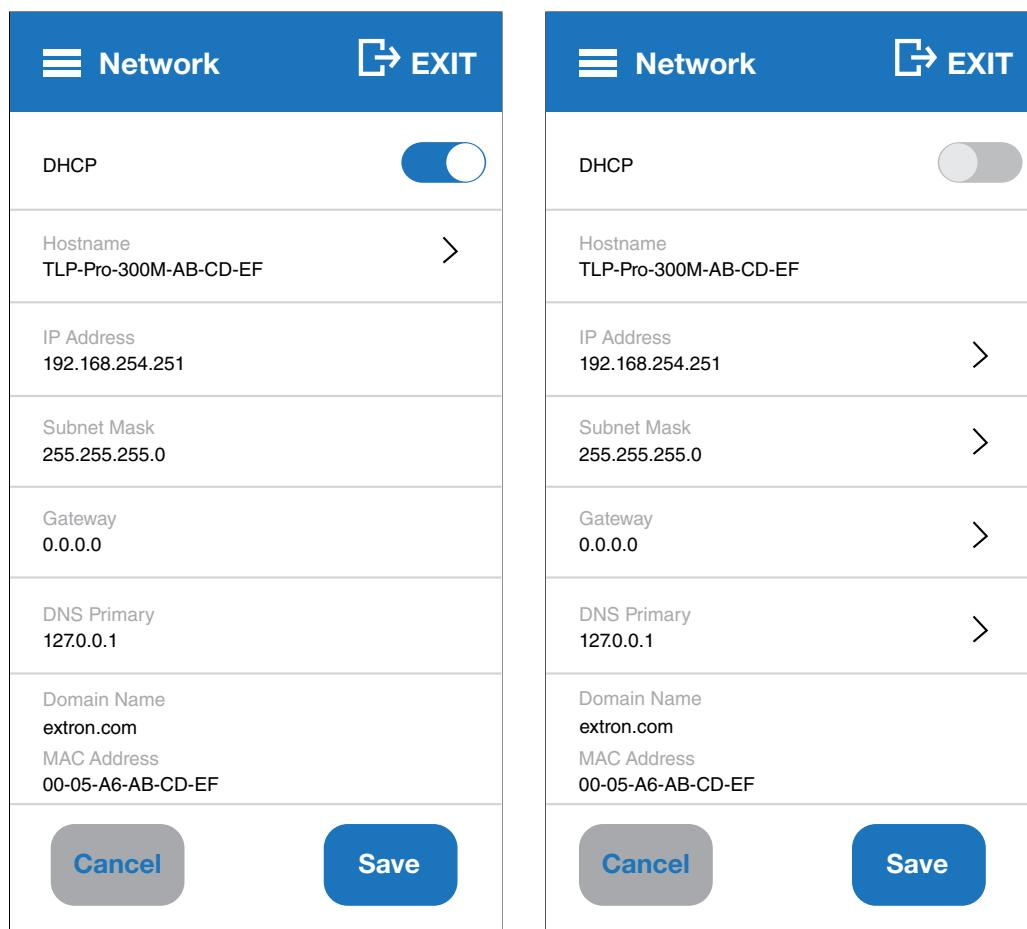

Figure 7. Network Screen: DHCP on (left) and DHCP off (right)
1. If the IP addresses are assigned by DHCP, move the DHCP slider to the right, as shown in figure 7 (left).
If IP addresses are assigned manually, move the DHCP slider to the left, as shown in figure 7 (right).